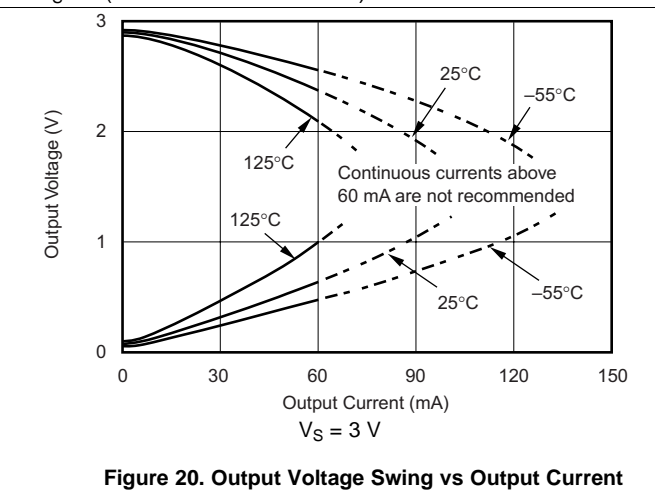

Figure 20. Output Voltage Swing vs Output Current
(1) Full range $T_A = -40^\circ\text{C}$ to 125°C .
(2) See Figure 20.
TI does not recommend running a continuous dc current in excess of ± 60 mA. See Figure 20 in the Typical Characteristics section.